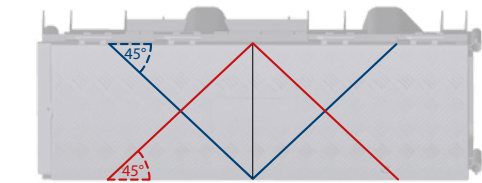
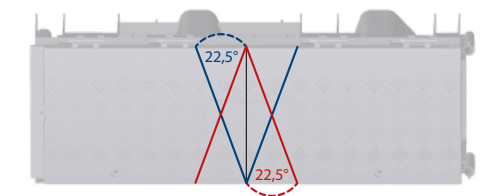

Figure 1: Cutting paths for 90° angular element
Figure 2: Cutting paths for 45° angular element
2. Mark the cutting lines on the top and sides of the cable duct using the cutting paths shown in Figure 1 and Figure 2 respectively. Observe the color-coded cutting paths for left- and right-sided route changes.